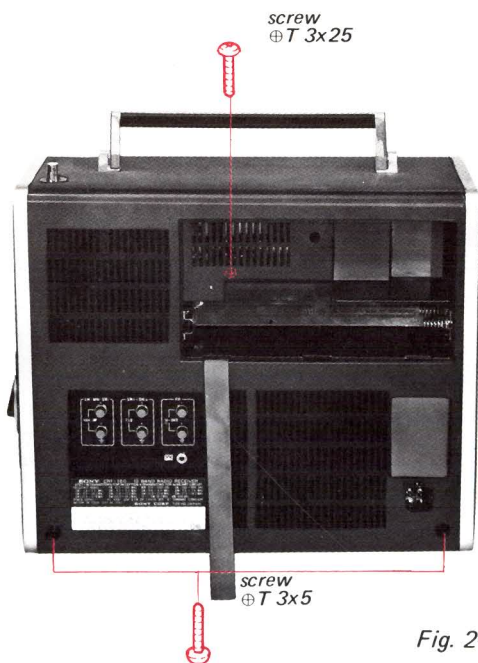

Fig. 2-2
3. Remove the three screws shown in Fig. 2-2.